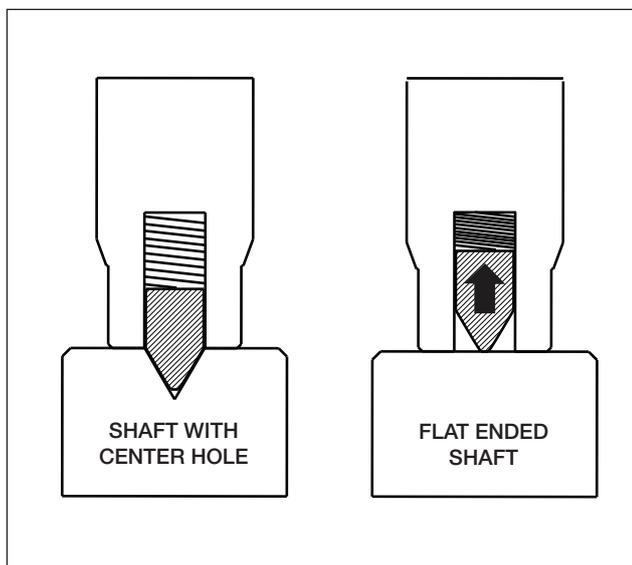

Figure 4, Retractable Point
- Models SGM10 and SGM20 feature a special adjusting rod which contains a spring-loaded retractable point. The point engages if the shaft end has a drilled center hole or depression. It automatically retracts if the shaft end is flat. See Figure 4. No point protector is required for these models.